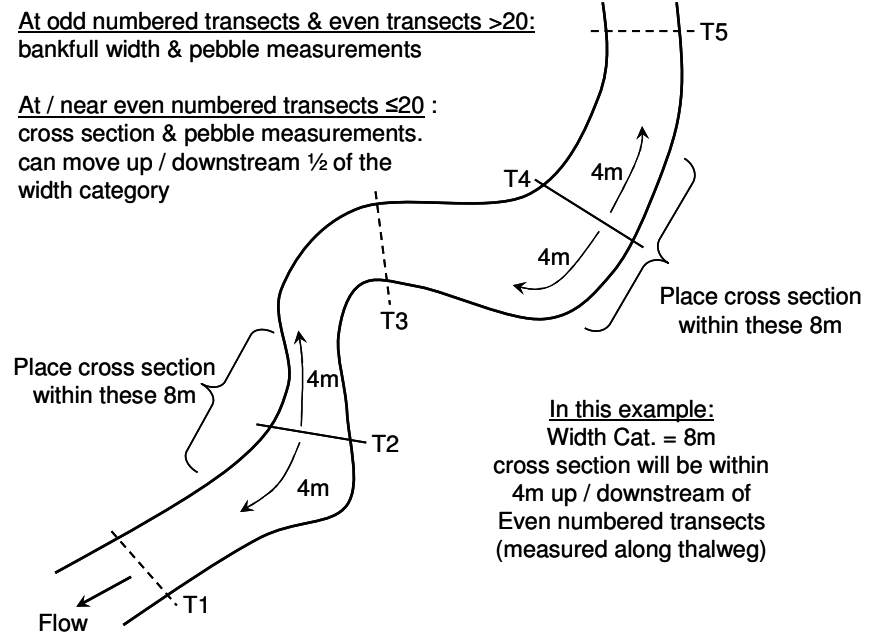

Figure 15. Determine precise location of each cross-section in relationship to even-numbered transect.
- You don't have to place cross-sections exactly in line with transects, you can move up or downstream from the transect $\frac{1}{2}$ of the width category (measured along thalweg). If the width category is 8m, you can go up / downstream from the transect 4m (figure 15). If the width category is 14m, you can go up / downstream 7m.